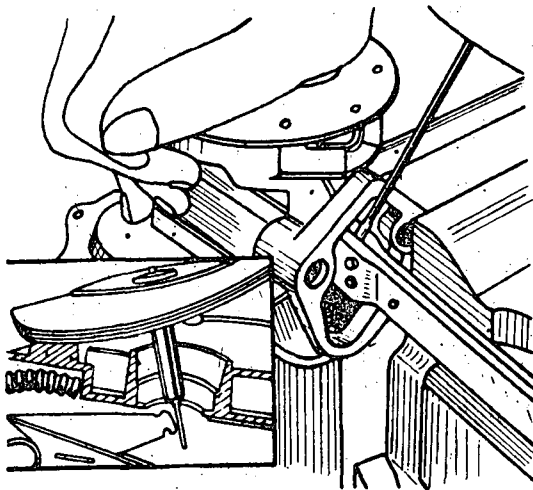

Fig. 3
- a) Remove the diaphragm by compressing the spring so as to dislodge the stem from its operating lever (fig. 3).
- e) Install the spring and the diaphragm (fig. 3).